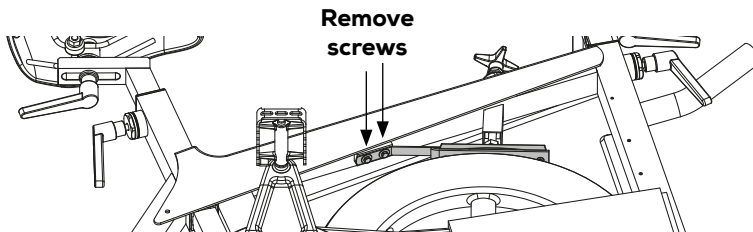

Figure 19
- 4) Remove the two screws holding the brake block to the frame by using an 8 mm wrench, see figure 19.